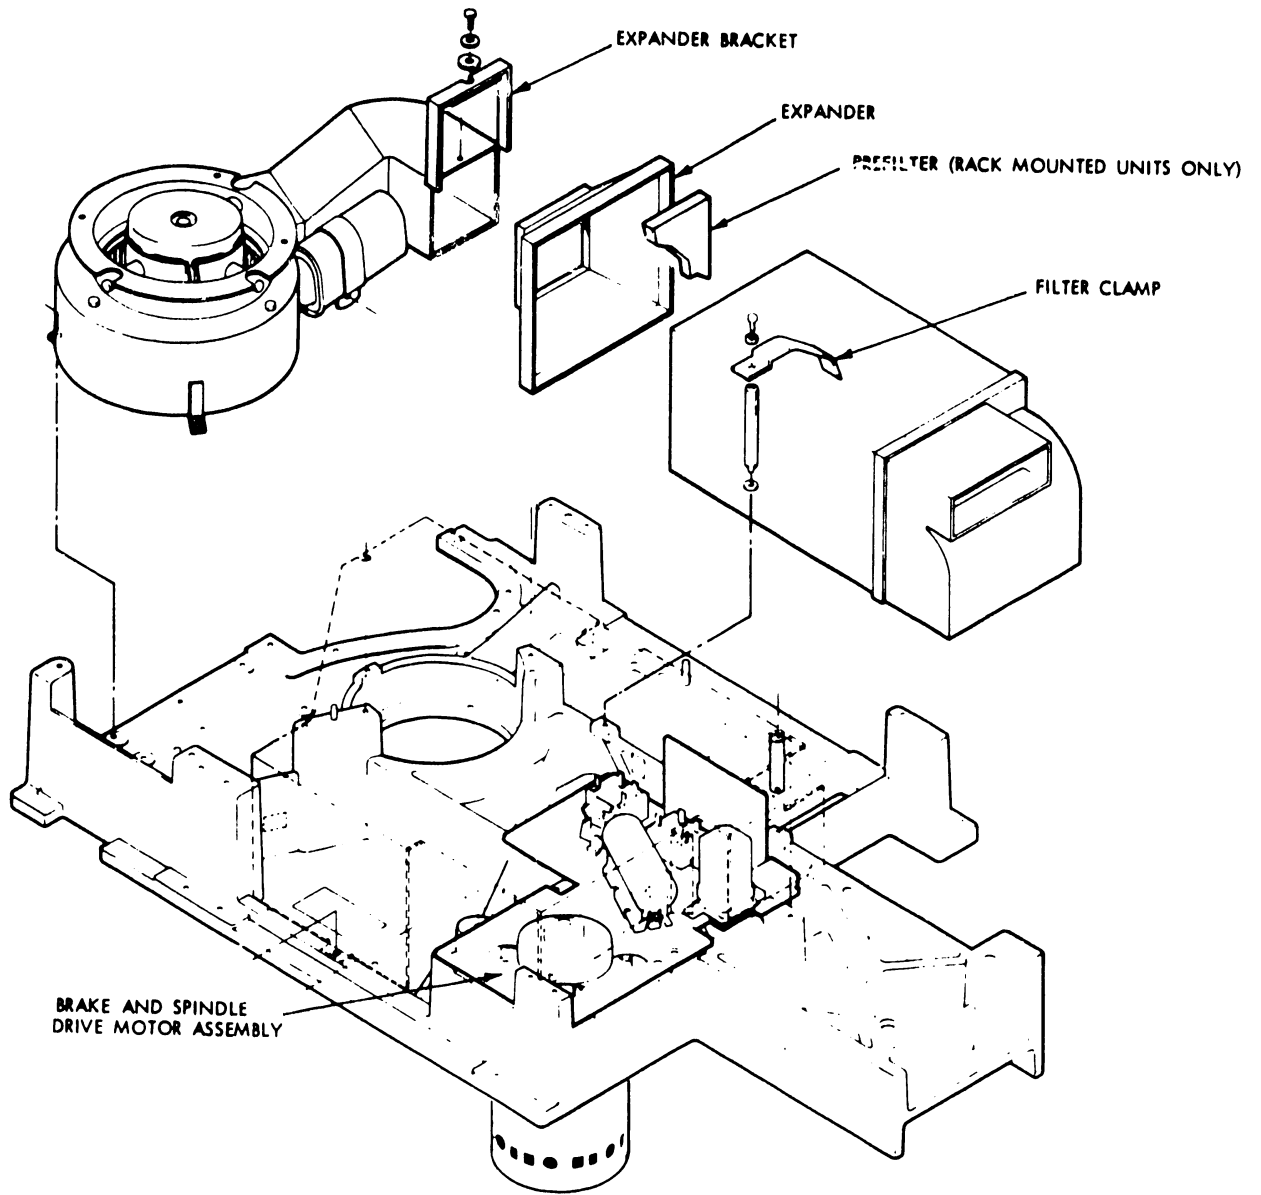

FIGURE 5-24 FILTER MOUNTING
4. Loosen filter clamp (figure 5-24)) and swing clamp clear of filter.
3. Loosen filter clamp (Figure 5-24) and swing clamp clear of filter.